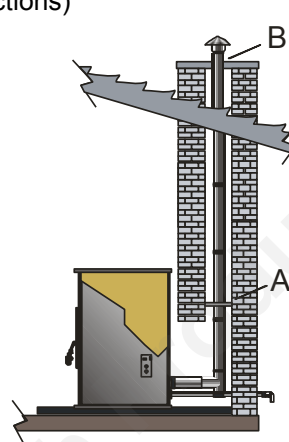

Figure 7
1. Must be an approved 3" or 4" Diameter Type "PL" vent, vented to the outside (fig. 7) or connect the vent to a factory built type "A" chimney using an adaptor.
## PELLET VENT TERMINATION: (Figures 7 & 8)